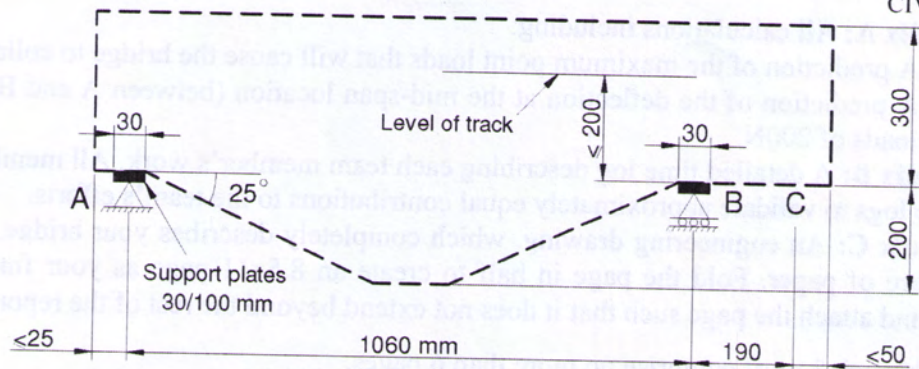

Figure 2: Important Dimensions
- 3: The broken-line contour shown in Figure 2 defines the maximum allowed dimensions of the bridge in elevation.